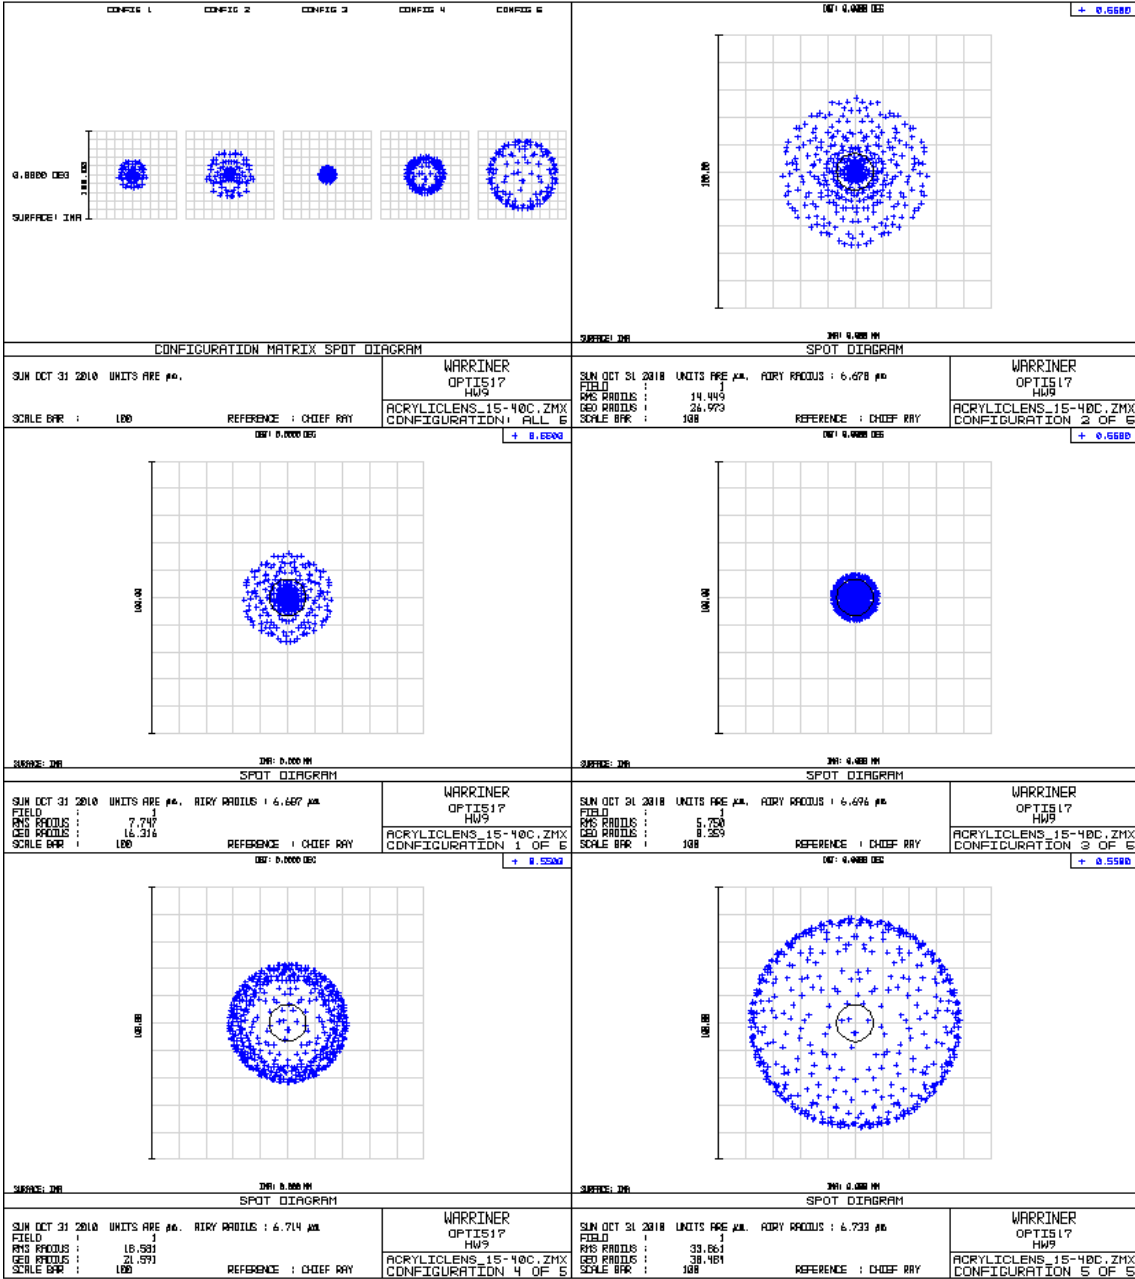

Figure 10: System performance across temperature with an optimal thickness acrylic spacer
10. Use Reports->Report Graphic 6 to summarize performance across temperature as shown in Figure 10.
Performance obviously suffers a great deal as temperature changes. We can compare the RMS radii given by Zemax in Figure 10 to the values predicted analytically using Equation 7; this is shown below.